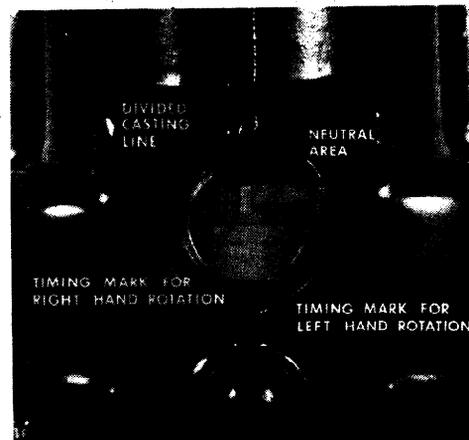

Figure 1. Alignment of Magnet Marks –
- b. Continue turning the engine slowly, still in the direction of normal rotation, until the proper timing mark on the rotating magnet is centered in the viewing hole. Figure 1 illustrates the timing mark centered for a right hand rotation magneto. A left hand rotation magneto would have the left hand mark centered. Eight cylinder magnetos will show an "R" line or an "L" line on the rotating magnet through the viewing hole.
- c. Turn engine slowly back toward number one cylinder firing position until proper timing mark on magnet is in center of the viewing hole (See figure 1).